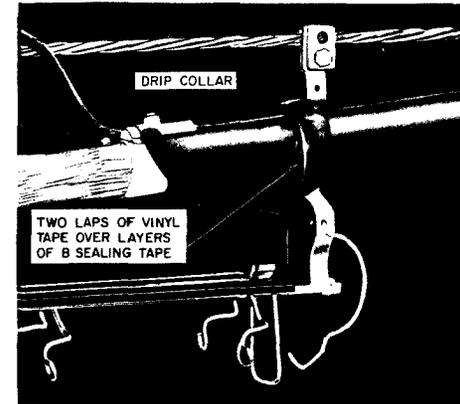

Fig. 11—Drip Collar Installed
5.05 On the cable sheath at each end, just outside the bond clamps, form drip collars with the sealing tape provided. Form the collar starting at the top of the cable by building up layers of tape, one on top of the other, using the entire length of tape (Fig. 11). Place two turns of vinyl tape over drip collars to prevent the cover from adhering to the sealing tape.